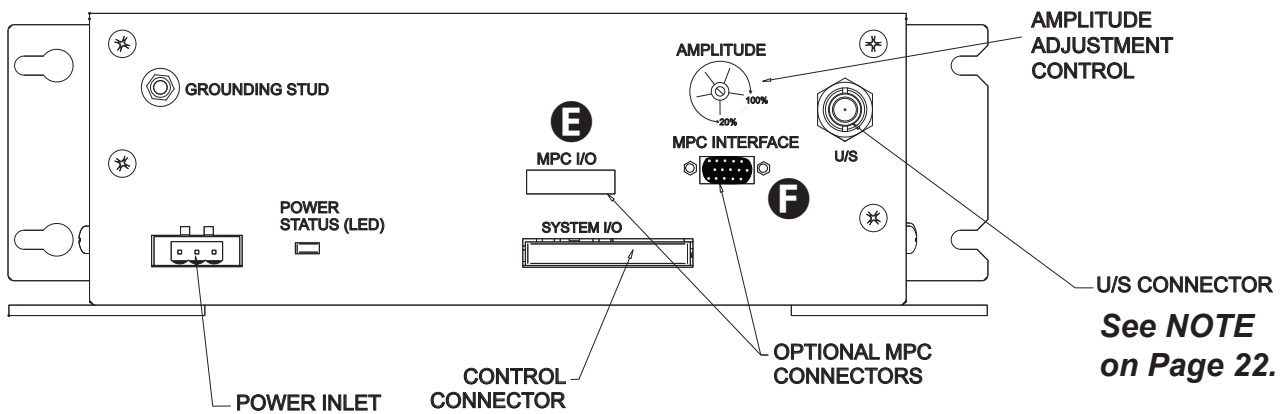

Figure 3-2 Generator Front View - Optional MPC Model
Step 5. MPC I/O - Wire the MPC control/input signals and status output signals terminal block to the user-supplied automation control system - **E** in Figure 3-2.
Step 6. MPC INTERFACE - Attach one end of the MPC Interface cable (Dukane # 200-1408-XX) to the MPC Interface connector on the *iQ* Auto panel - **F** in Figure 3-2. Connect the other end of the cable to the MPC INTERFACE connector on the right rear of the MPC module.